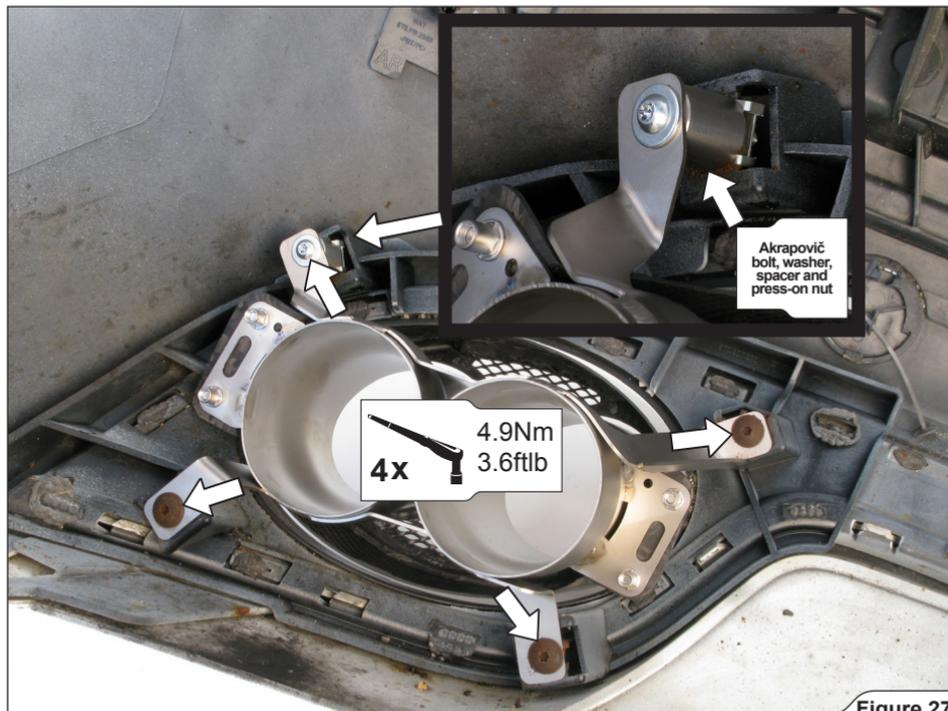

Figure 27
10. **For RS5 only:** attach the Akrapovič tail pipes onto the bumper, using three stock bolts and one bolt, washer, spacer and press-on nut per side (**Figure 27**).